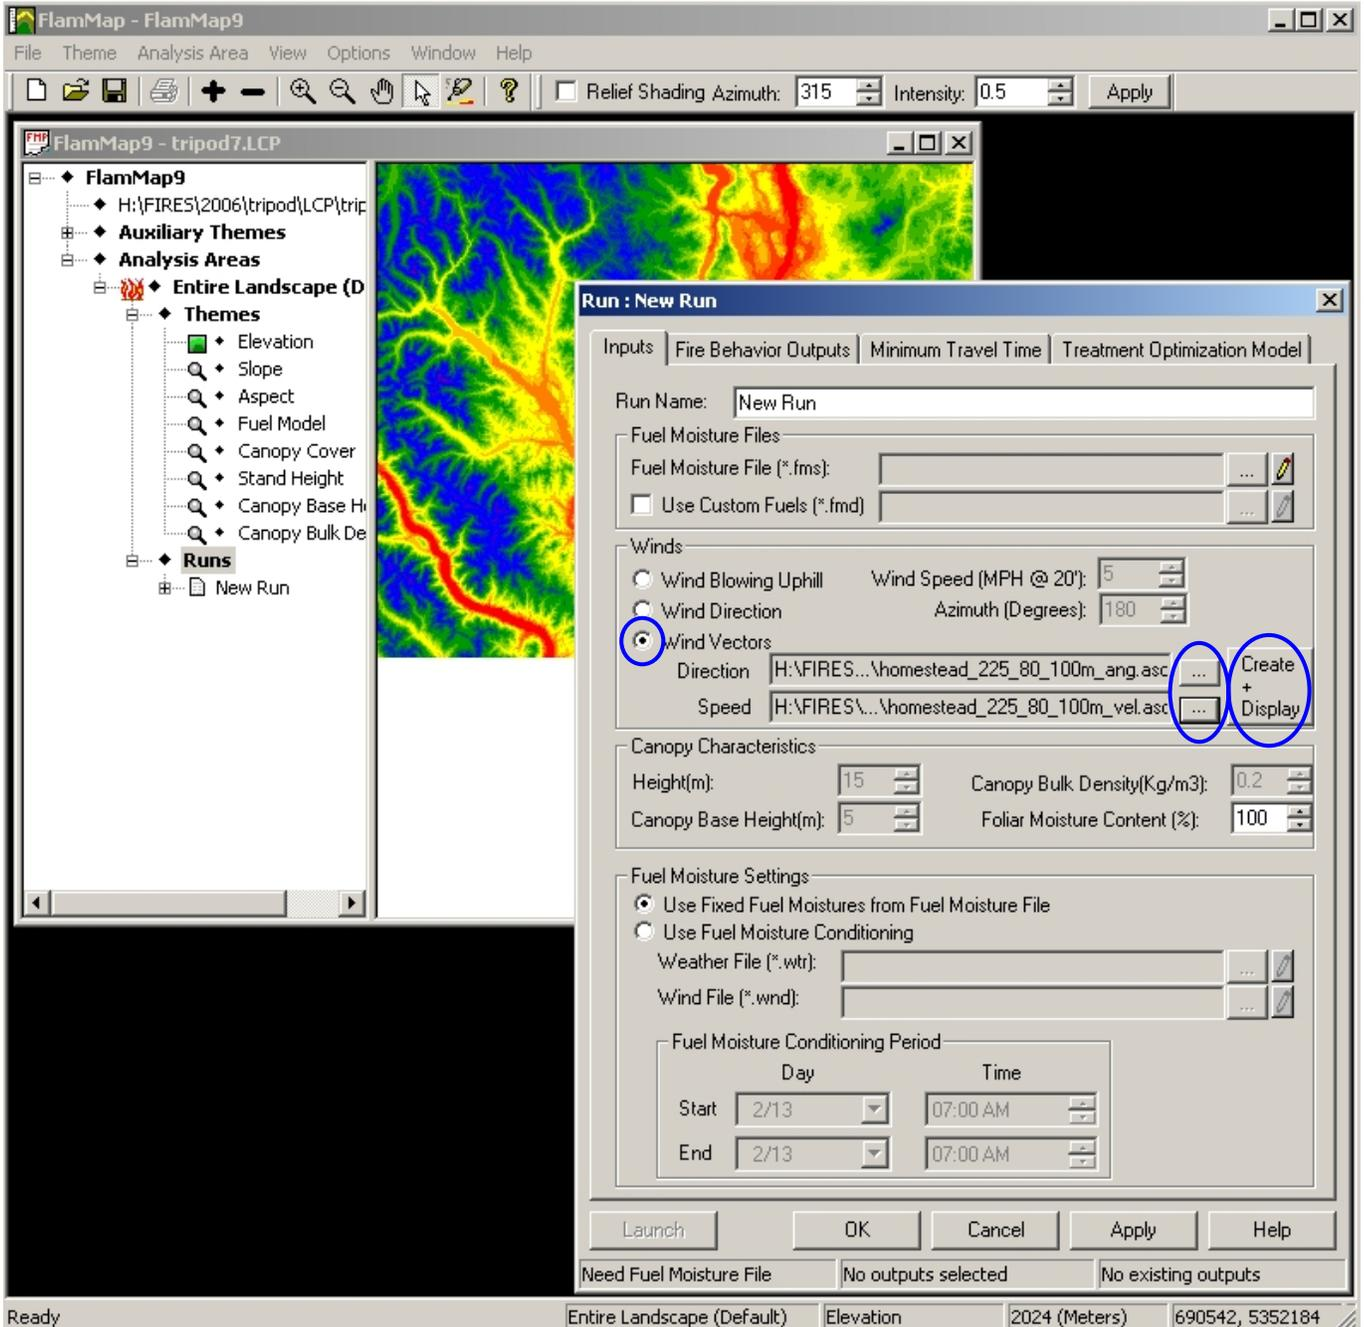
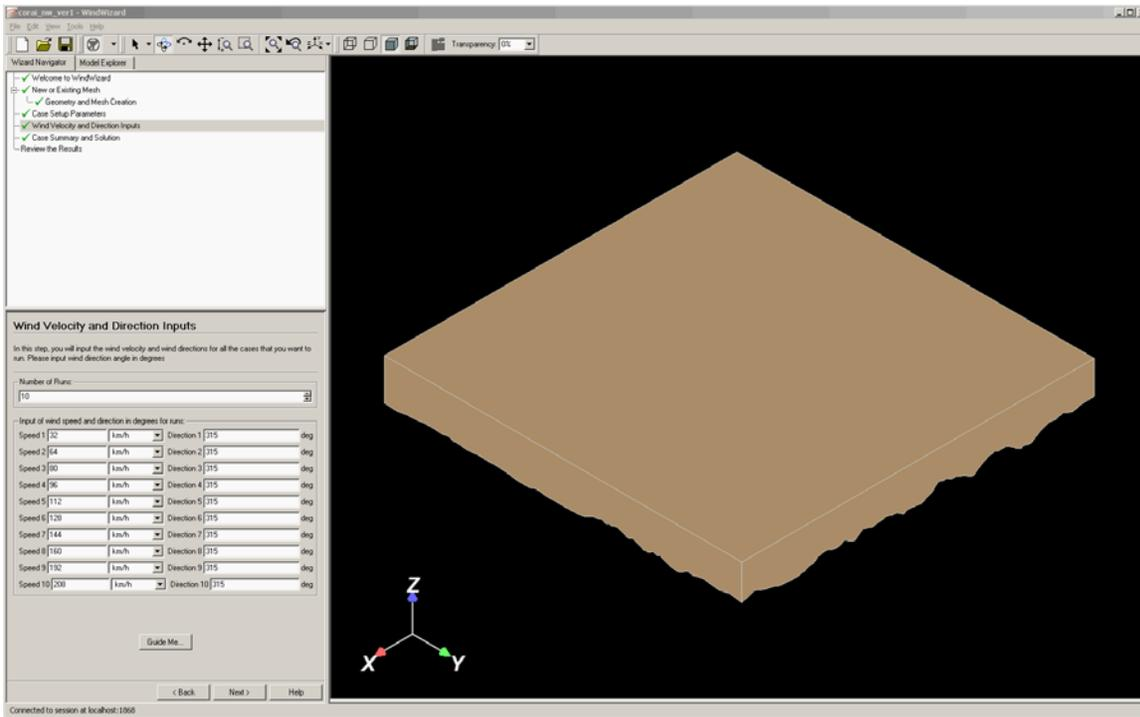
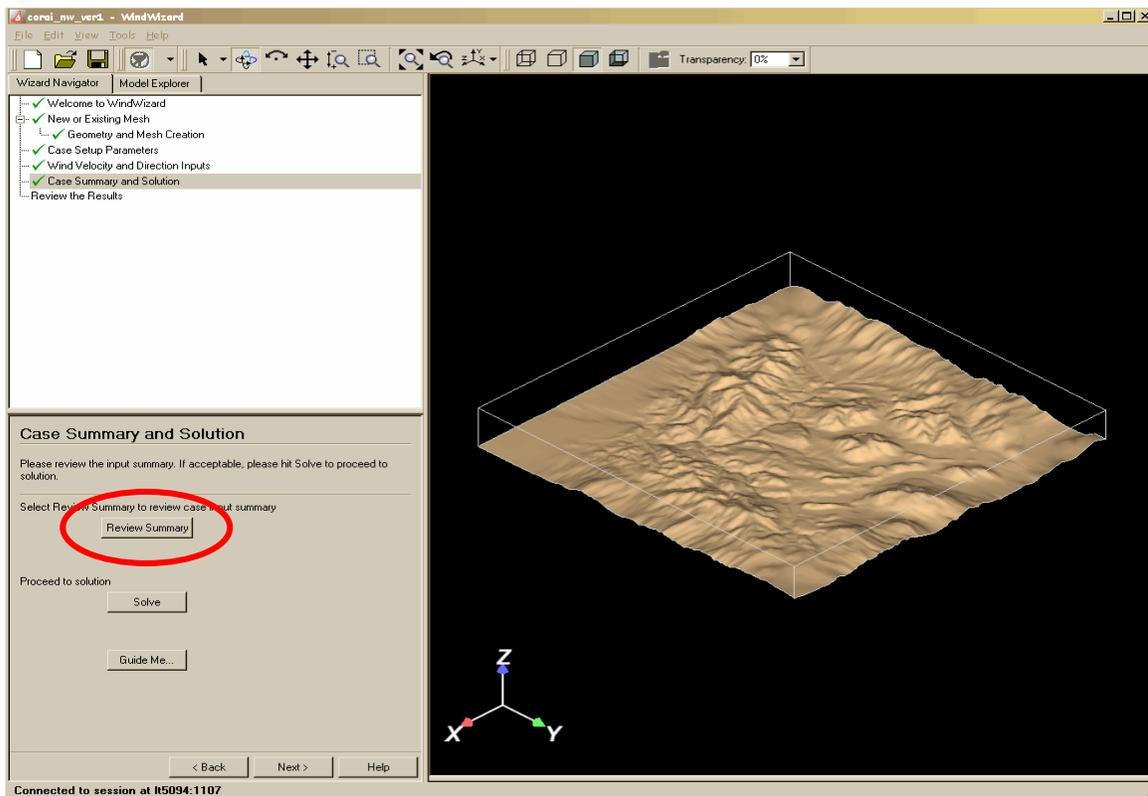
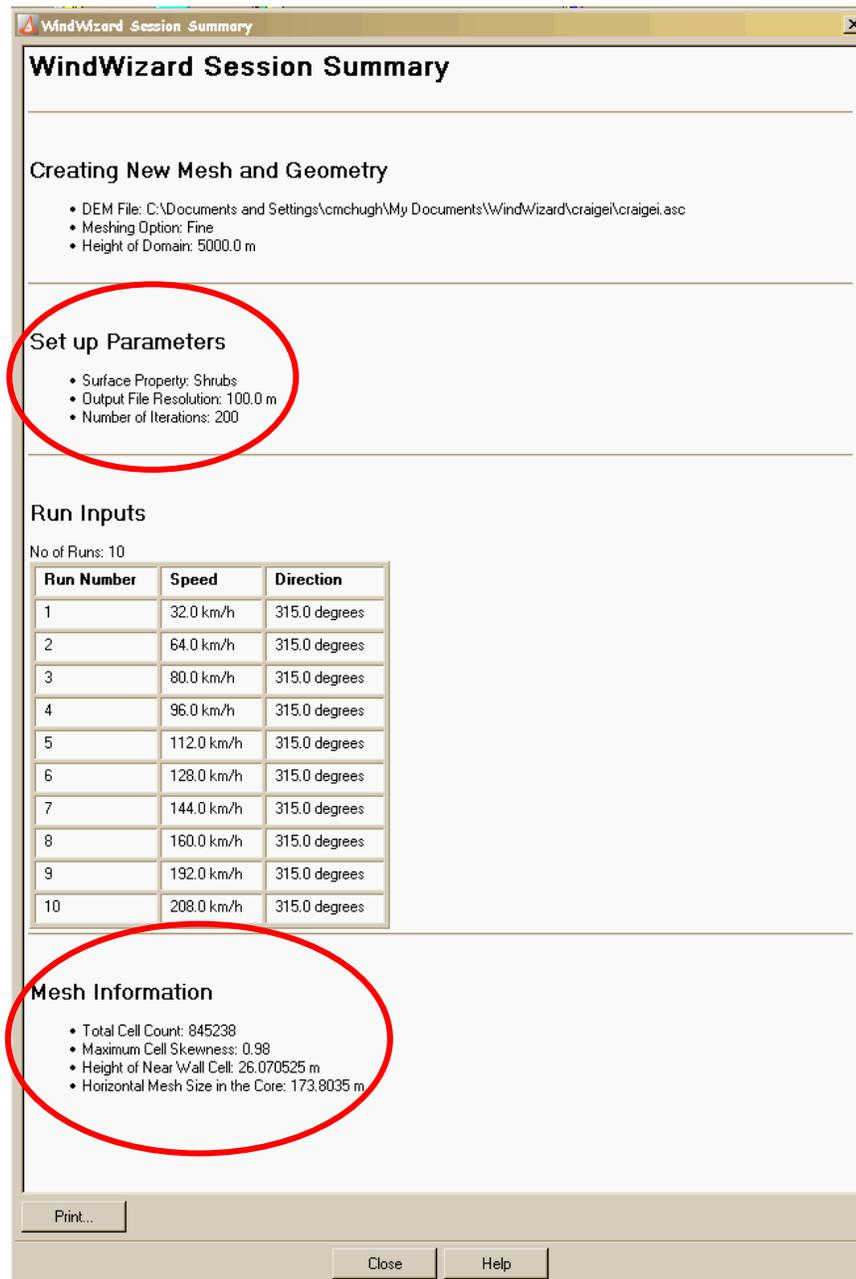

Figure 8. Use WindWizard ASCII Raster files in FlamMap by selecting the “Wind Vectors” radio button and importing the ASCII Raster direction and speed files.
Figure 9. Window after opening a previous WindWizard session file.
Figure 10. WindWizard window showing the Review Summary button allowing the user to view the session settings used for this particular simulation.
Figure 11. WindWizard Session Summary information.
WindWizard output can be imported into FlamMap 3.0. This option requires no GIS skills and products can be displayed quickly in a 3-dimensional format. *Gridded wind products must be in the same projection and datum as the LCP to display the vectors.* To view WindWizard output, load an LCP, create a new run, under “Winds” select “Wind Vectors.” Input the angle ASCII Raster file (*.ang.asc) for direction and the velocity ASCII Raster file (*.vel.asc) for speed. Select “Create and Display” to view the wind vectors (Figure 8 and 9).
Gridded wind can be imported into FARSITE or FlamMap. In FlamMap, import the angle and velocity ASCII Raster files as previously discussed and displayed (Figure 8). For FARSITE, select Input > Project Inputs > Select Wind Files (.ATM). The atmosphere file (ATM)—a text file specifying month, day, hour, wind speed file, direction file, and cloud cover file—must be precisely formatted to function in FARSITE and in the same folder as the ASCII Raster velocity, angle, and cloud cover files (refer to FARSITE Help) (Figure 11). For modeling convenience, WindWizard creates a cloud cover file (*cld.asc), but does not simulate cloud cover; rather it outputs a 0% cloud cover at every pixel on the landscape.
Figure 11. Use WindWizard ASCII Raster files in FARSITE by creating an ATM file and importing it by checking the Wind Files (.WND) box and selecting “Wind ATM GRID (*.ATM)” from the drop down list.
4. The *surface property* of the initial run (grass, shrub, forest). The same surface property used in the initial run must be used during the resampling process. This value should be documented during the run process by the user or can be accessed from the WindWizard session summary (see Figure 11).
After selecting a previous WindWizard file and selecting the **“Read Case”** button the window should look like Figure 9. This view will differ based on the number of runs the user defined in the original simulation. In this example a total of 10 different wind directions and velocities were defined. In this example, the information contained in the **WindWizard Session Summary** and needed as inputs for the f2f program are the same for each of the individual runs. **REMEMBER** f2f must be run separately for each of the WindWizard simulation results the user wishes to resample.
At this point the user can then select the **“Case Summary and Solution”** in the top left-hand directory tree (Figure 9). Doing this will change the WindWizard view allowing the user to select the **“Review Summary”** (Figure 10). Selecting the **“Review Summary”** button will open up the **WindWizard Session Summary** for the current active session (Figure 11). At this point the user can transcribe the information, print the session summary or use a screen capture program for documentation purposes.